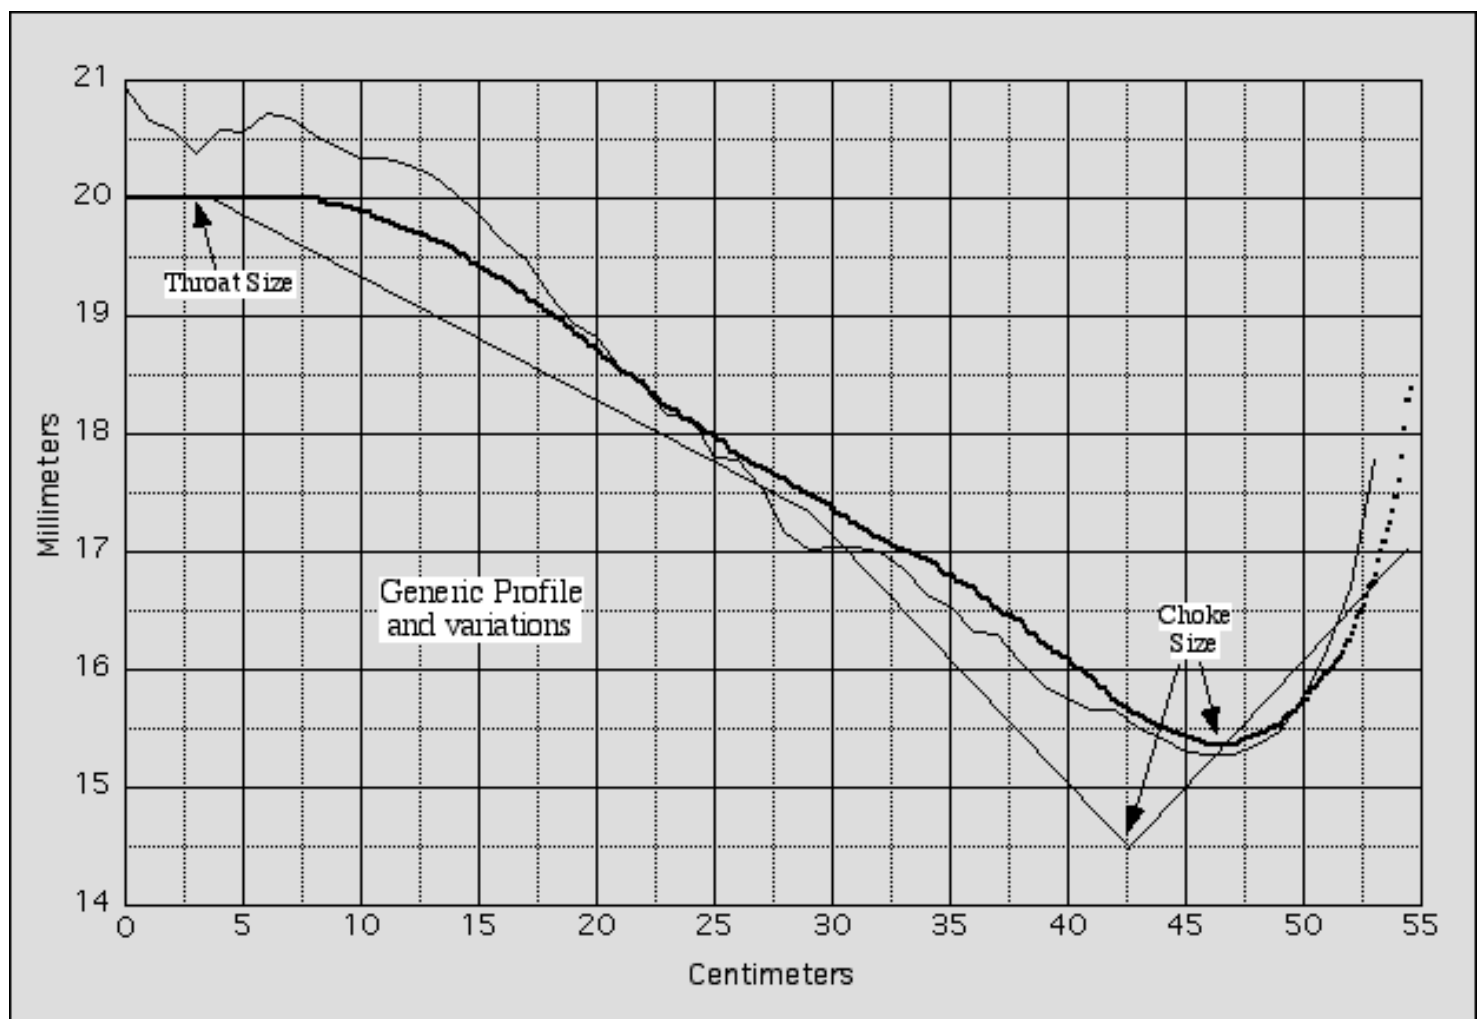

Figure 1
**Which part of the bore (hence wave) you squeeze or expand determines what will happen.** Where along the wave you mess with it determines the effect you'll produce. Every wave has two types of nodes, let's call them **pressure nodes** and **flow nodes**. At a pressure node the air doesn't move much, the pressure changes. At flow nodes the pressure doesn't change much, the air moves one way and then the other--that's what sound is. For the fundamental wavelength (the base note of your flute, figure 1) the flow nodes are at the ends and a pressure node exists at the center of the flute.
Figure 1 illustrates the base note of your flute. Flow nodes at the open ends and pressure node in the center. Now for the tricky part. If you add material anywhere in the flow node region (**below the line**) the wave will **lengthen**. Add in the pressure region (**above the line**) and the note is **sharpened**. **So it matters both how much stuff you put in the bore of your Shakuhachi AND where you put it.** Put stuff right where the wave crosses the line (getting a bit of flow and pressure) and the addition cancels out--no effect. This crossover point is the Flat Spot and holds particular interest as a candidate for hole placement.
We can easily stretch/shrink the waveform to fit any throat and choke dimensions--let's call these the vertical dimensions. But the interesting part is that an '**Offset Point**' naturally emerges from the algorithm and its value is based on the number of notes and harmonics we specify. Notice in figure 1 there's an Offset Point in each bore profile. Never noticed it? Well it's there.